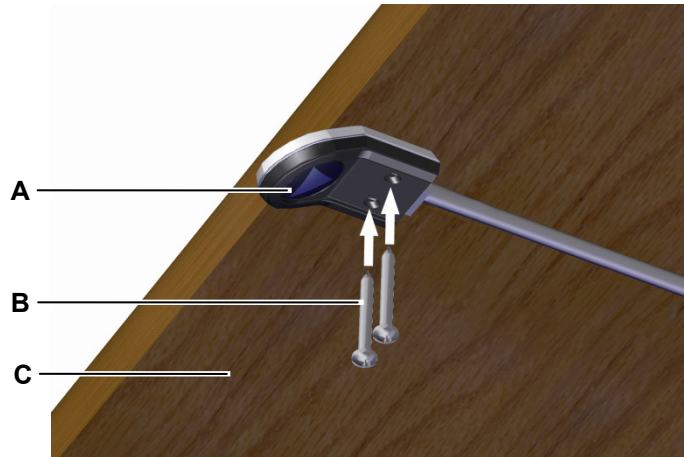

Figure 24 Example: Mounting the Motion Assist control keypad
Two screws are used to attach the Motion Assist control keypad to the underside of the table (at the table's front edge), as shown in Figure 24.
- Example: Use screws (B in Figure 24) which meet the requirements of DIN 7981 with  $\varnothing$  3.9 mm and of suitable length (10 mm plus the screw-in depth into the table), screw head:  $\varnothing$  7.5 mm.